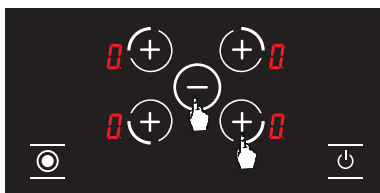

Figure 16
2. The When you press the corresponding button at the same time, corresponding hotplate selection **+** the volume of the and the hotplate button **H** is reduced to **0**. (See Fig. 16.)